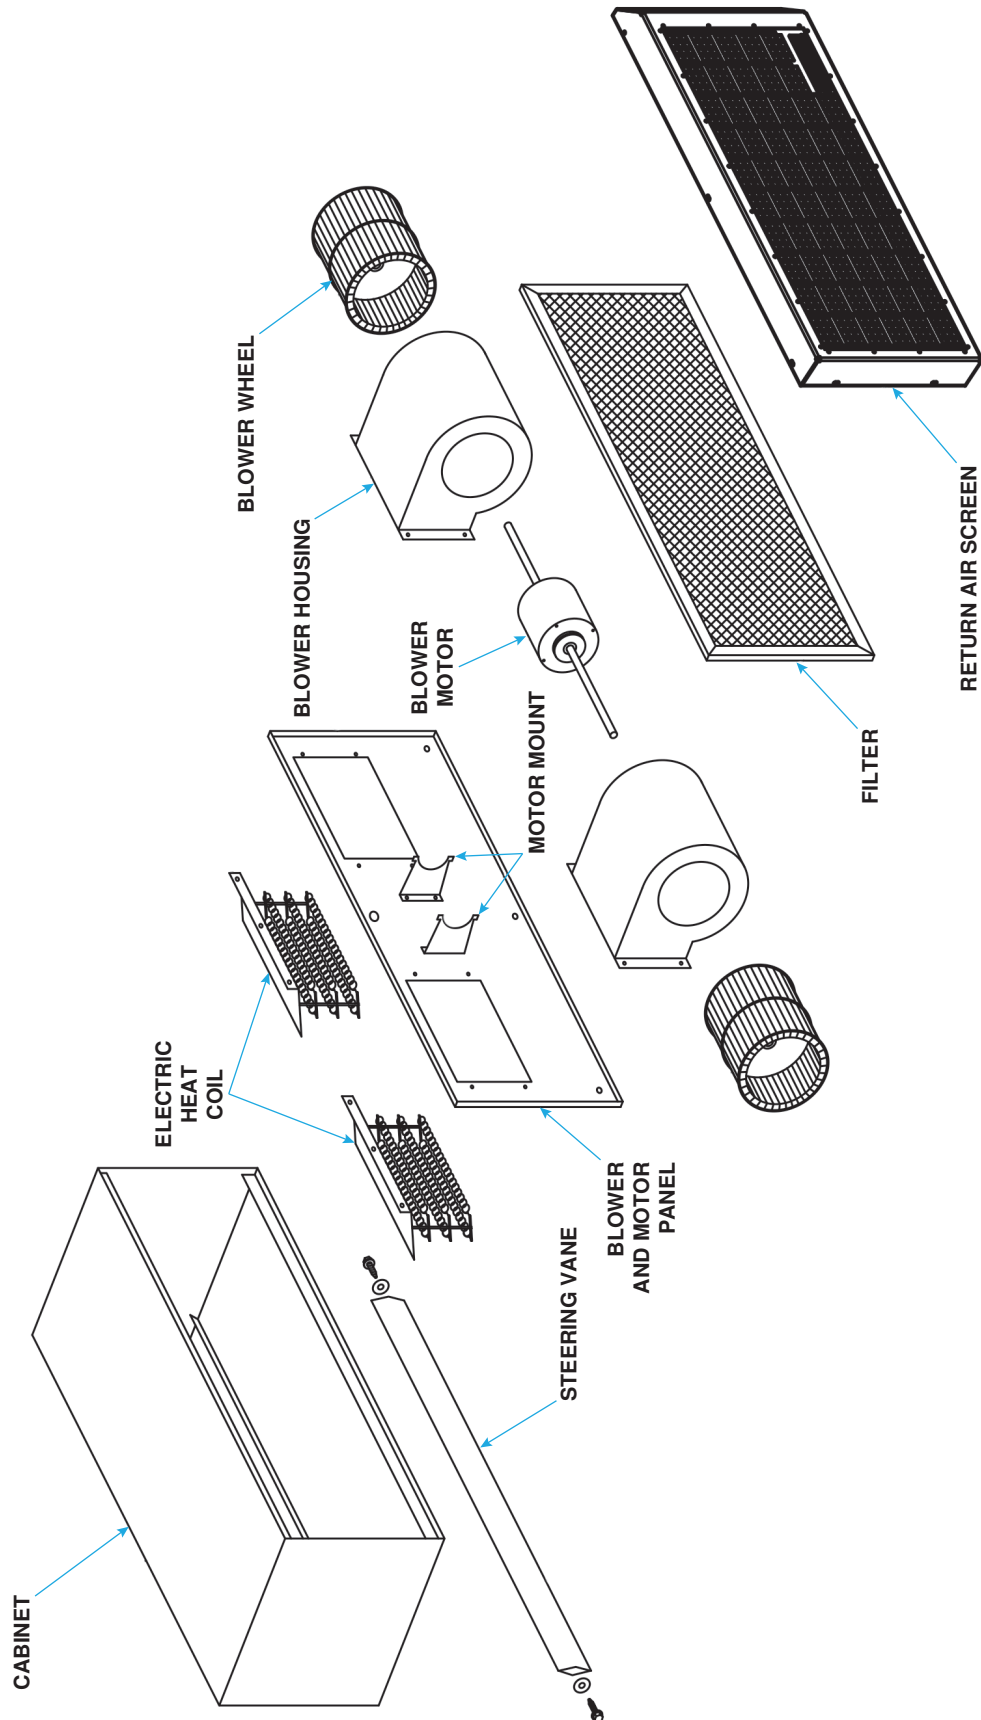

Figure 4. Typical Exploded View
Periodically clean return air screen and filter (see Figure 4). The cleaning schedule will vary per location depending on the amount of particles in the air. The holes in the screen must be free from obstructions to ensure that the blower(s) can get enough air to function properly.
2. Adjust steering vane (see Figure 4) as necessary:
Clean, repair, or replace (as necessary) blower and motor assembly (see Figure 4) as follows:
Replace any faulty electric heat coil (see Figure 4) as follows: